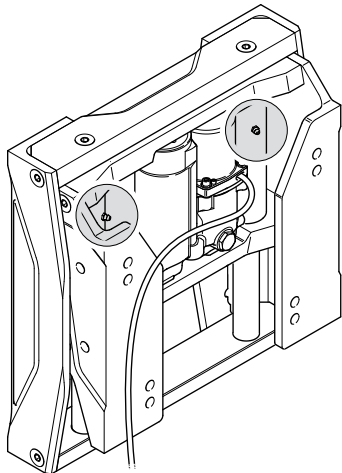

Figure 2. Grease fitting locations.
4. Lubricate the guide rods by pumping general marine grease into each of the bearing tubes via the grease fittings identified in Figure 2.